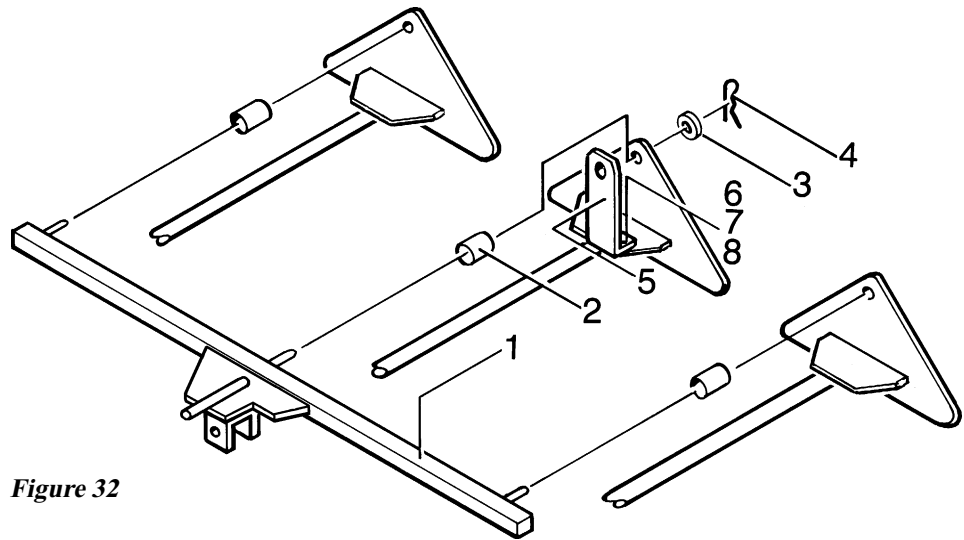

Figure 32
**Step 26:** Lay the rack onto the floor and rest the back panel on the wood supports or use a step ladder with the rack upright. **Do not use the rack as a ladder.** Install the drive bar assembly (Item 1) using Items 2, 3 and 4. Item 3, the SAE washer, must be installed as shown to reduce the lateral movement of the drive bar. Install the cylinder support (Item 5) using Items 6, 7 and 8. Keep the cylinder support at the outer end of the drive bar support pin to avoid interference with the drive bar. (Figures 32 and 33).